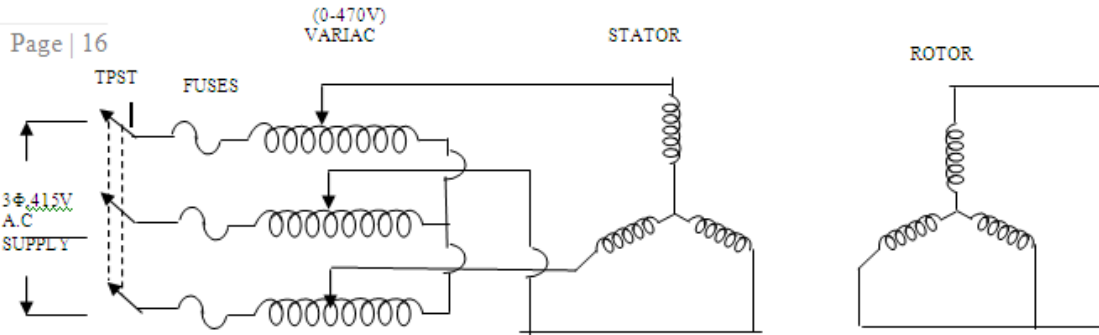

Figure 2 CIRCUIT DIAGRAM FOR INDEPENDENT MOTOR WITH EITHER 4 POLES/2 POLES
1. Make the connections as shown in fig 2
1. Keeping the previous connections unchanged replace voltmeter by ammeter and short the other two phases with neutral as shown in fig 2